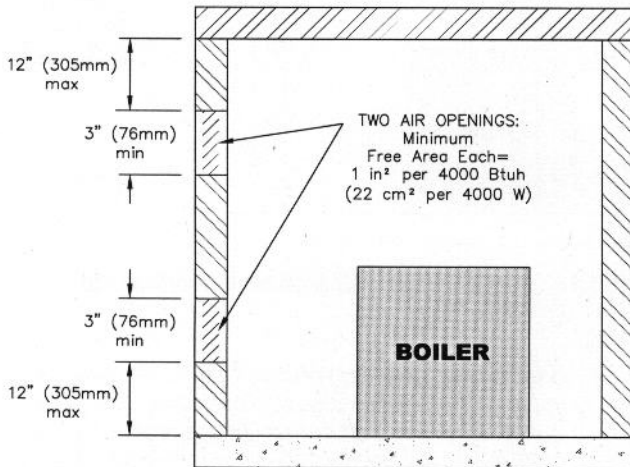
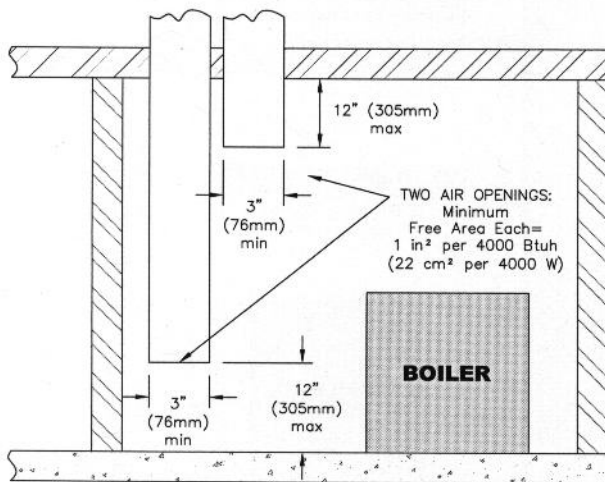

Figure 1.3: Air Openings – All Air Directly from Outdoors
Figure 1.4: Air Openings – All Air from Outdoors through Vertical Ducts
- i. Where communicating directly or through vertical ducts with the outdoors each opening shall have a minimum free area of 1 in2 per 4000 Btu/hr (22 cm2 per 4000 W) of total input rating for all equipment in the space. See Figure 1.3 for openings directly communicating with the outdoors or Figure 1.4 for openings connected by ducts to the outdoors.